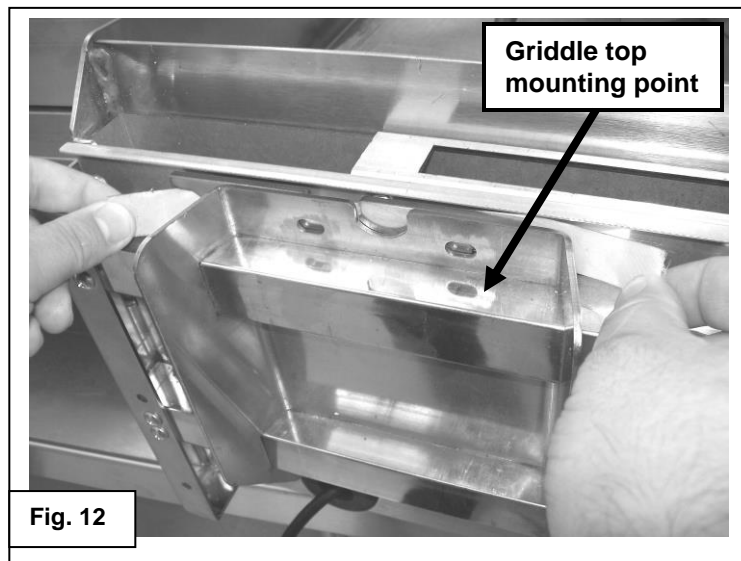

Fig. 12
13. Use tape to align holes in mounting plate with holes in griddle top mounting point as shown in Fig. 12. Tape to hold in position until installation of griddle top is complete. Repeat steps 12 and 13 for the bottom mounting point.